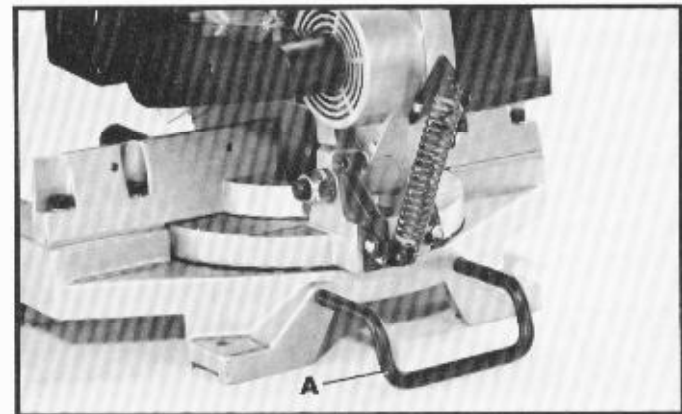

Fig. 20
A rear support bar (A) Fig. 20, is provided to prevent the miter box from tipping to the rear when the cuttinghead is returned to the up position after a cut has been made. For maximum support, the bar (A) should be pulled out as far as possible.